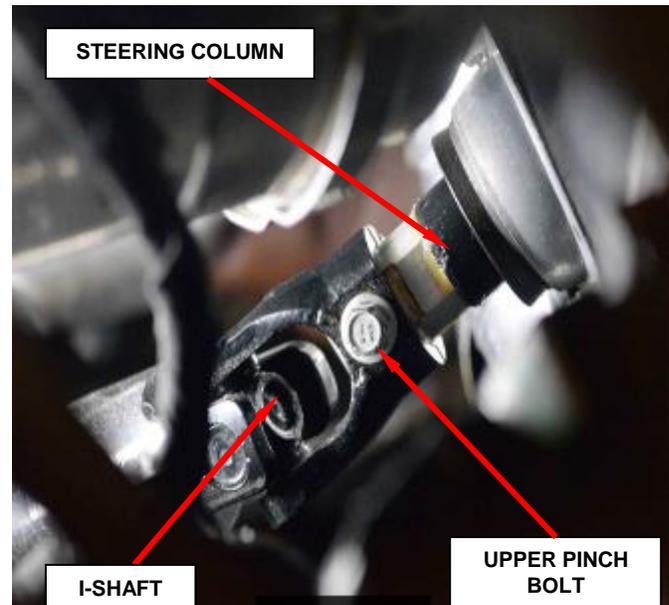

Figure 18 – Upper Pinch Bolt
23. Remove and **DISCARD** the intermediate shaft upper pinch bolt (Figure 18).